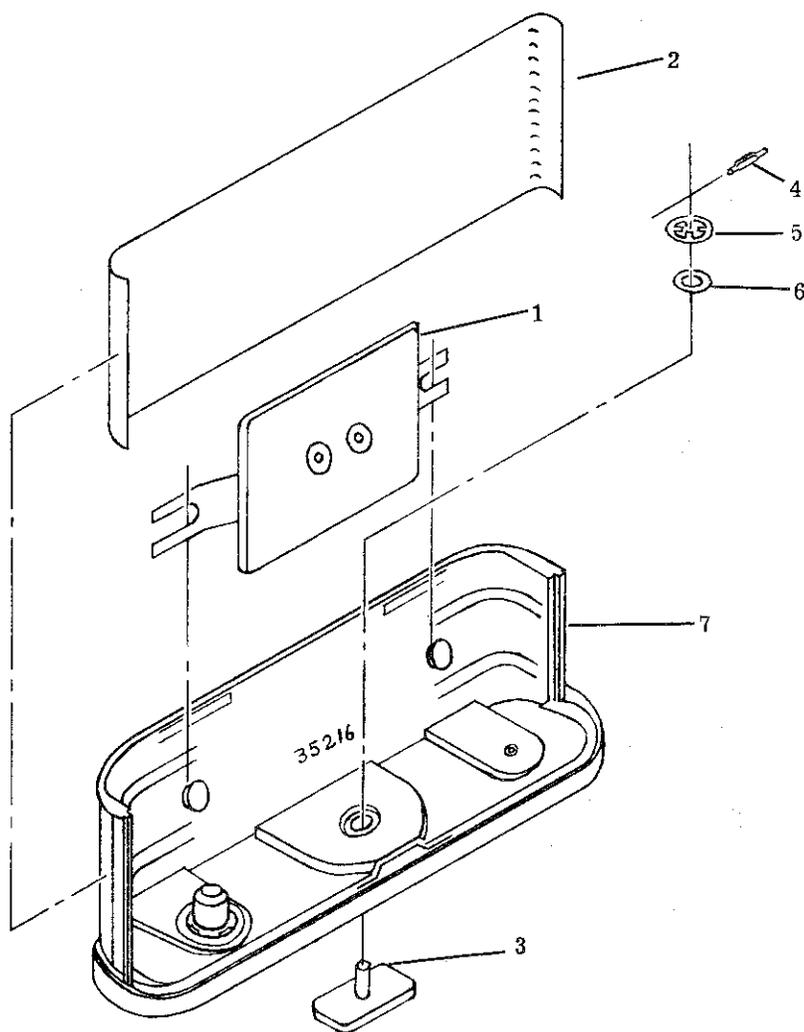

Figure 9. Back Cover, Exploded View
a. Remove the pad assembly (1 figure 9) by simultaneously pulling out on one side of the pad and pressing down on the spring arm.